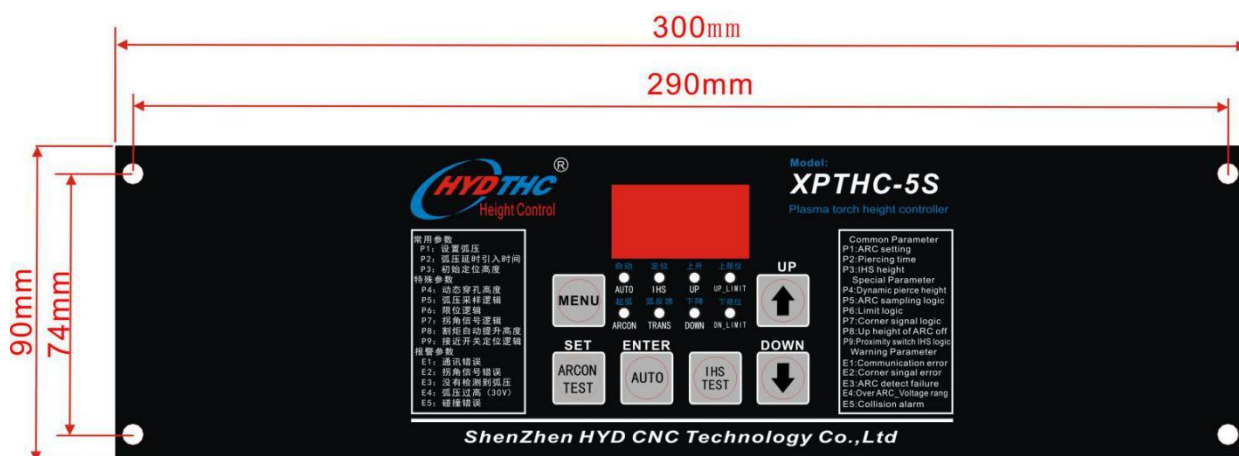

Figure 1-4: Single plasma operation panel
2、Operation panel and installation size as figure1-4 and 1-5, 1-4 is the single plasma operation panel , 1-5 is the double plasma operation panel, the size are same.